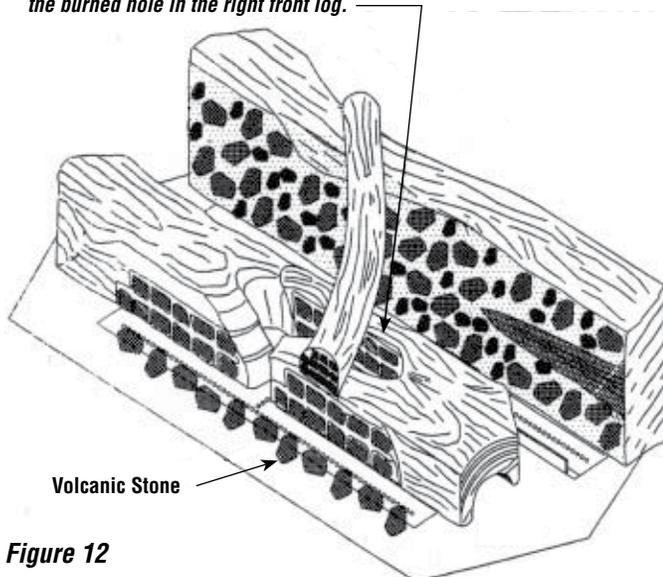

Figure 12
- Place the volcanic stone one high in front of the front burner tube (see **Figure 12**). Take care not to cover all the burners ports. Any extra volcanic stone may be placed at the ends of the front logs, off the burner. Place small pinches of rockwool (embers) on top of the volcanic stone.